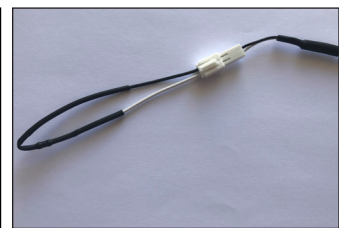

Figure 39 - Installed Resistor
3. Add a resistor to the cascade communication cable of the last unit. See Figure 39.